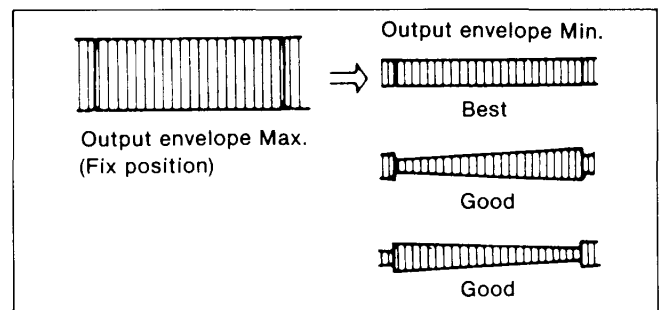

Figure M22
8. Turn the Tracking VR fully clockwise and counterclockwise. The output envelope should vary nearly parallel with other condition as shown in Figure M22.